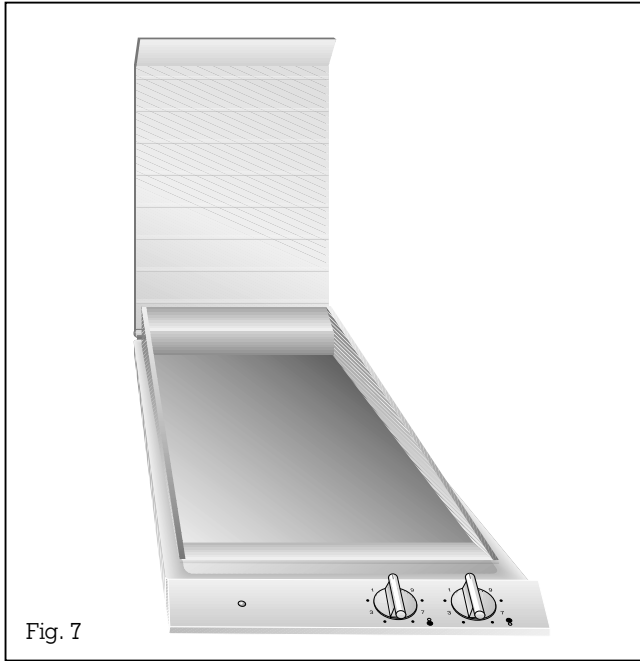

Fig. 7
- Place the grille plate AM 060-000 (special accessory) on the Vario grill (Fig. 7).